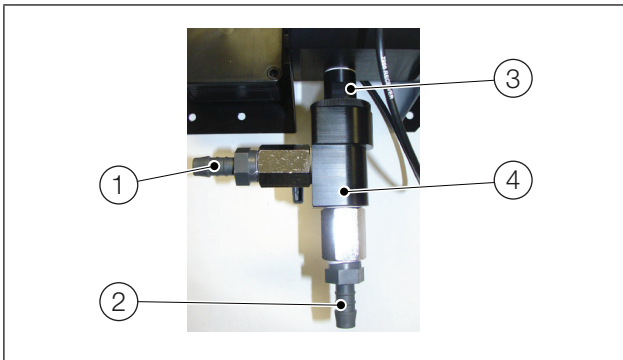

Fig. 3.1 Replacing feed / drain assembly
2. Referring to Fig. 3.1:
- a. Disconnect sample feed hose and drain hose from connectors ① and ② respectively.
- b. Using a 20 mm open-ended spanner across flats ③, unscrew feed / drain assembly ④.